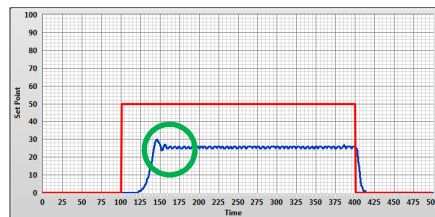

Fig. 41 – Oscillating System
- 4) Increase the  $K_p = K_{osc}$  gain until the system starts oscillating. In fig.41 the red line is the reference and the blue line is the transducer voltage value.